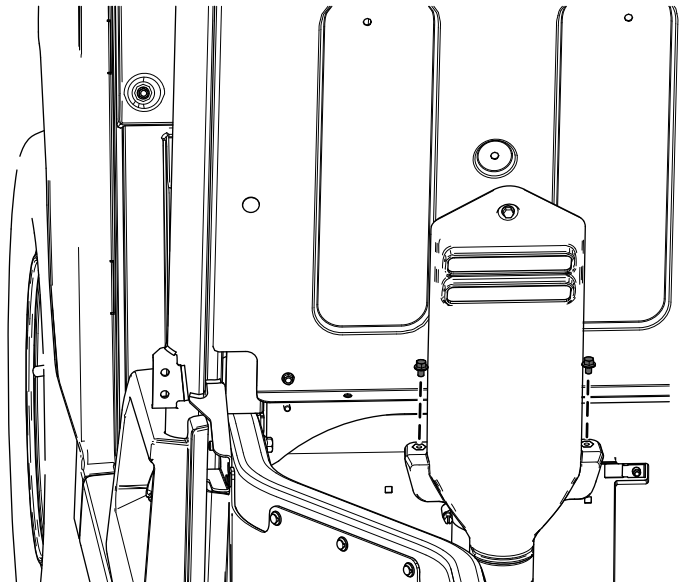

Figure 61
- A. Remove the 2 flange-head bolts (1/4 x 3/8 inch) from the CVT-intake hood (Figure 61).